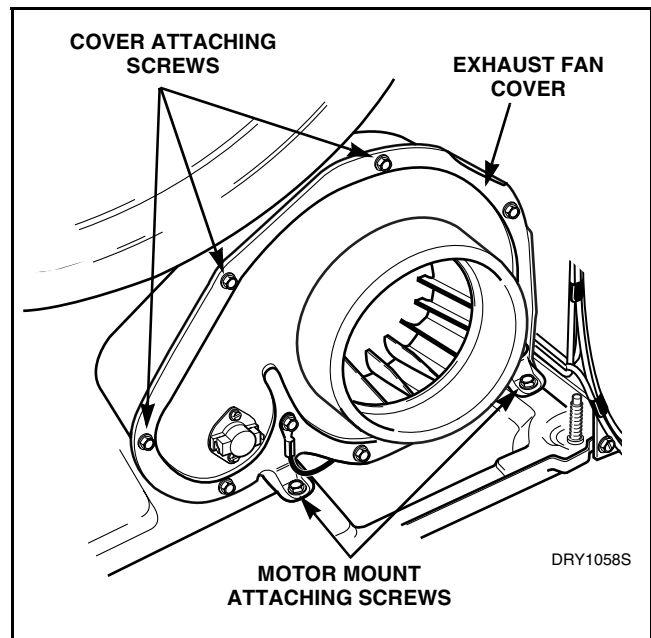
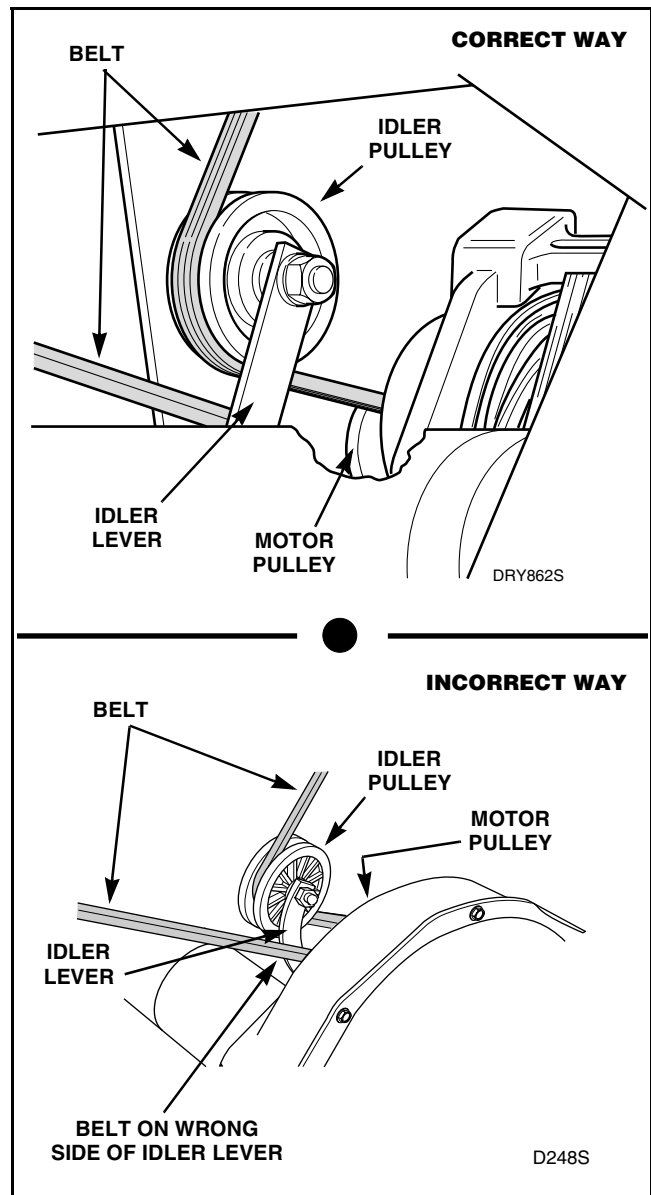
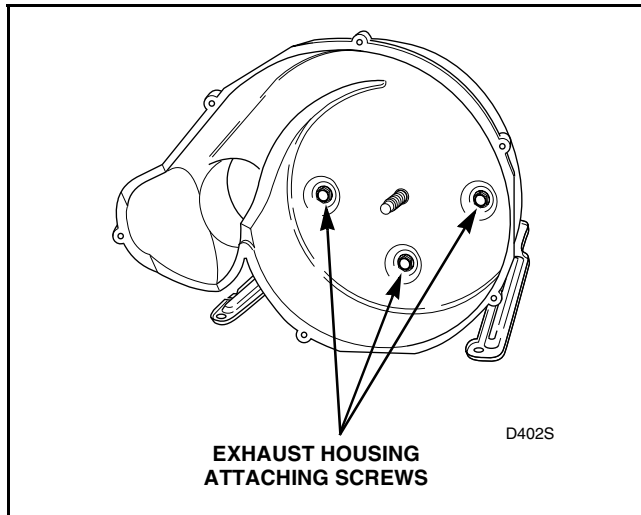

Figure 27
Figure 28
Figure 31
- g. Remove cylinder belt from idler and motor pulleys. Refer to *Figure 28*.
- h. Remove two screws holding motor mounting bracket to dryer base. Refer to *Figure 27*. Then pull complete assembly out thorough front of dryer.
**IMPORTANT:** When reinstalling motor and exhaust assembly, be sure wire harness on right side is clipped to motor mounting bracket and is routed along dryer base (between motor mounting bracket and right side of cabinet). Refer to *Figure 27*. Tab on rear of motor mounting bracket must be slid into slot in dryer base. Be sure the belt has been installed on the correct side of the idler lever. Refer to *Figure 28*.
- (1) Remove screw holding ground wire (if present) to exhaust fan cover. Refer to *Figure 27*.
- (2) Remove screws holding cover to housing. Refer to *Figure 27*.
- (3) Hold motor pulley securely and unthread impeller from motor shaft (right hand thread). Use a 7/8 inch, 6 point socket to aid in the removal of the impeller.
- (4) Remove three screws and washers holding the exhaust housing to the motor mounting bracket. Refer to *Figure 31*.
- Disengage belt from motor and idler pulleys. Refer to *Figure 28*.
- Disengage belt from motor and idler pulleys, *Figure 28*.
**NOTE:** When installing belt, be sure belt is properly installed on motor and idler pulleys, and is on the correct side of the idler lever. Refer to *Figure 28*. Belt must be positioned around cylinder between center and rear baffle screws with the ribbed surface against the cylinder. After installing belt, rotate cylinder manually to check that belt is properly aligned.